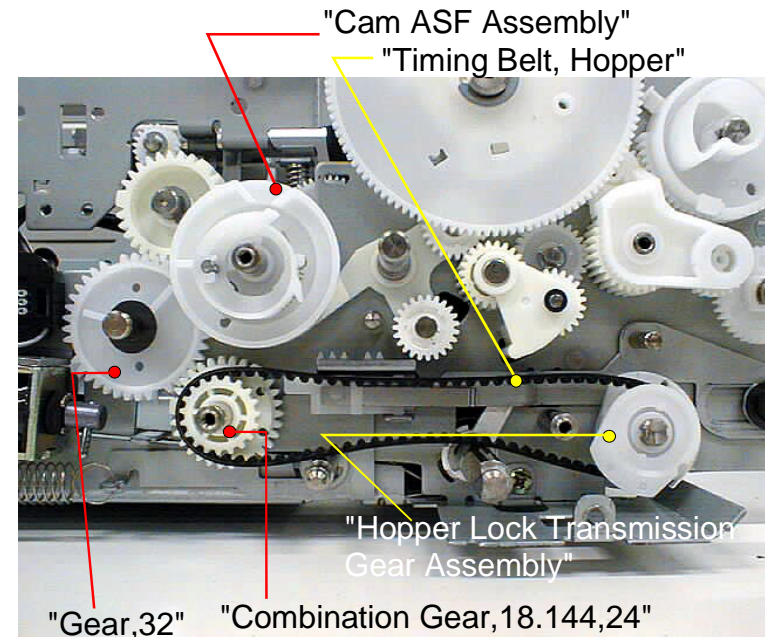

Figure 4-84. "Cam ASF Assy", "Timing Belt, Hopper", "Gear,32", "Combination Gear,18.144,24" and "Hopper Lock Transmission Assy" Removal
23. Remove the timing belt, which is installed between “Hopper Lock Transmission Gear Assembly” and “Combination Gear,18.144,24”. (Refer to Figure4-84)
24. Remove “Hopper Lock Transmission Gear Assembly” from axis. (Refer to Figure4-84)
25. Remove “Combination Gear,18.144,24” from axis. (Refer to Figure4-84)
26. Remove “Cam ASF Assembly”. (Refer to Figure4-84)